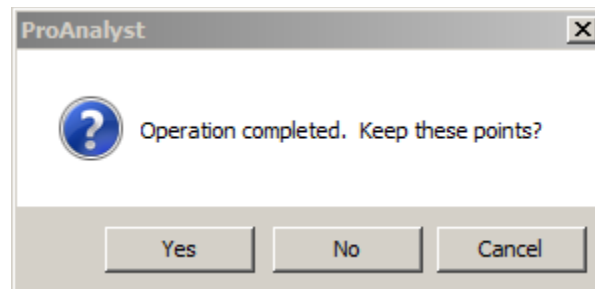

Figure 6. Operation Completed dialog box
6. Click the **Locate** button on the 3-D Calibration panel and select **Both Top and Bottom** from the popup menu. Another popup displays a status bar as the fixture points are located within the images. After the defined regions are processed, the dialog box shown in Figure 6 appears. Click the **Yes** button to continue.